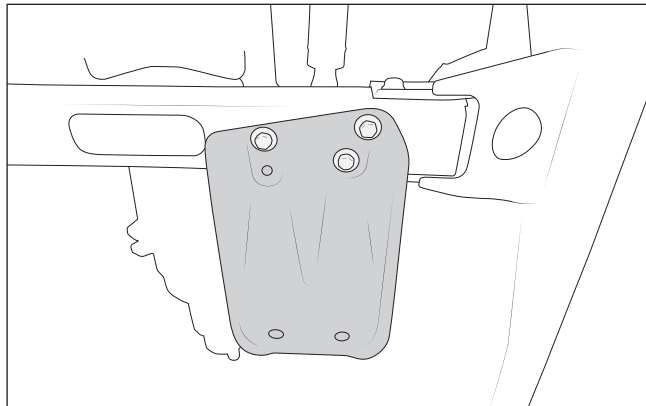

Figure 1
1. Remove factory skid plate (fig. 1).